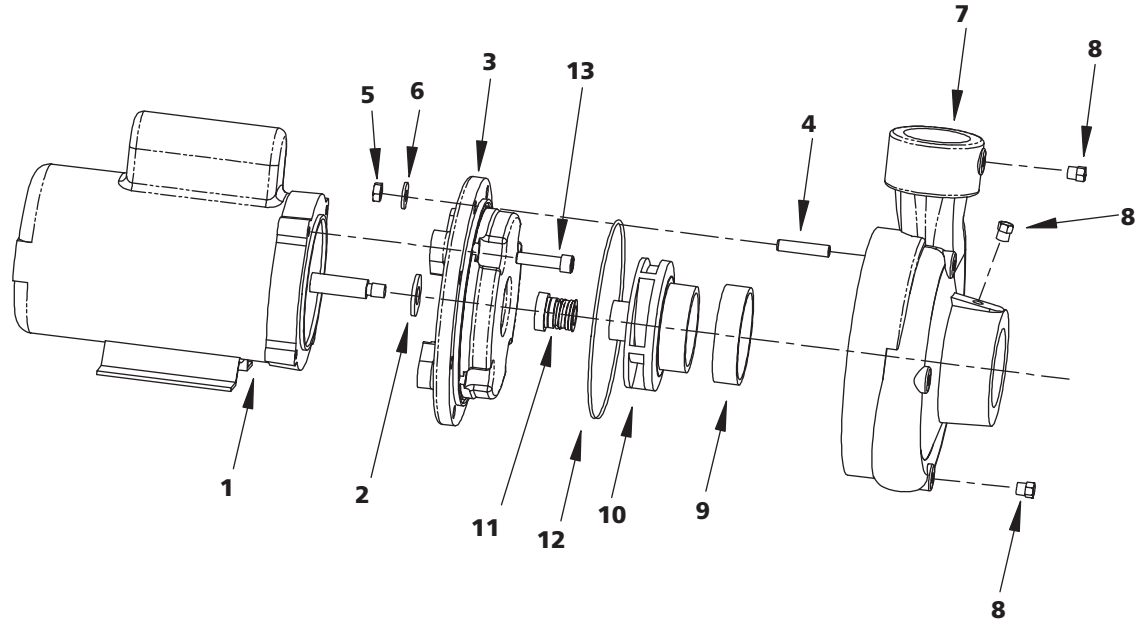

Figure 10 – Repair Parts Illustration
**Note:** Refer to figures 10 - 15 on pages 12 - 17 during the following disassembly and reassembly procedures.